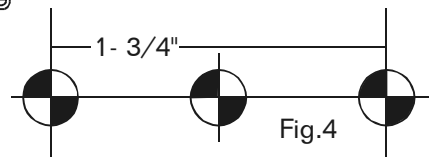

Fig.4
6) Install the hardware, locate the latch where it will not interfere with the door knob, dead-bolt, spreader bar, etc. Using template (fig.4) drill 3 - 1/4" holes thru door frame on the center rib, assemble latch (fig.5) & mount on door. Line up & attach keeper on jamb adjust to firmly engage latch.